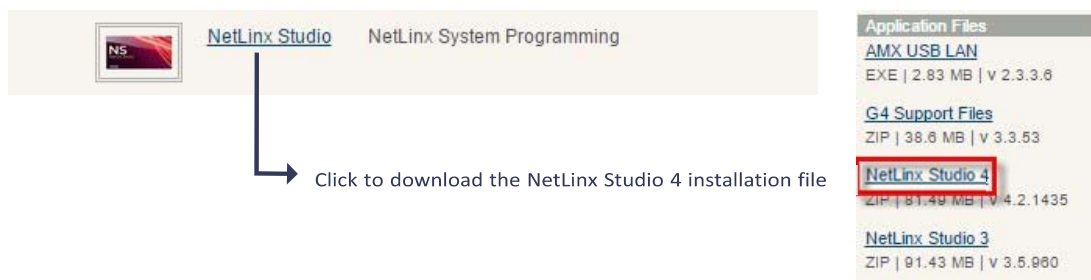

FIG. 156 NetLinx Studio v4 download links on www.amx.com
2. Click the **NetLinx Studio 4** link download the installation file (FIG. 156):